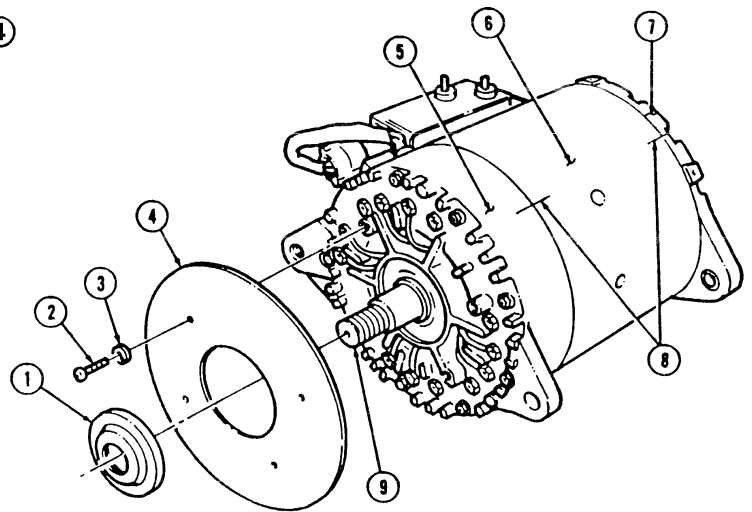

FIGURE 3-47
- (30) Install coverplate (4) on front housing assembly (5) and secure with four lockwashers (3) and screws (2). (see figure 3-47)
- (31) Install bearing bushing (1) on core and shaft assembly (9).